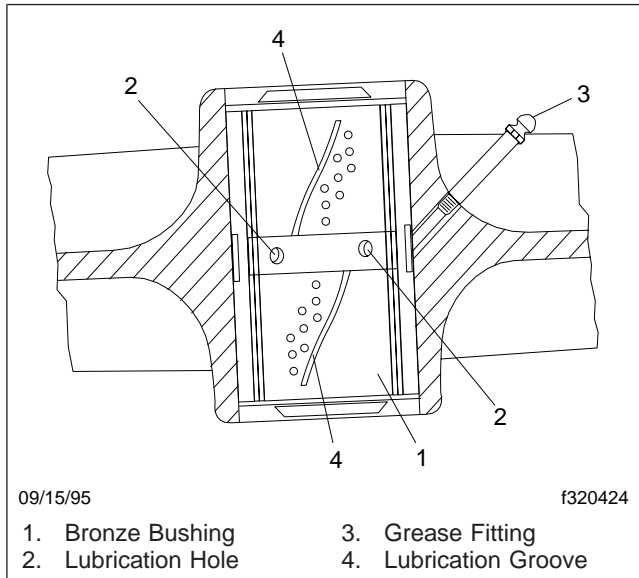

Fig. 22, Hendrickson RT2 and RTE2 Series Bushing Lubrication
3. Using a multipurpose chassis grease, lubricate the bronze, ball-indented bushings in the spring eyes at the grease fitting. See Fig. 22. Continue to lubricate until grease exits both ends of the bushing. If the pin will not accept lubricant, remove the pin and clean the lubrication channels where lubricant may have hardened. Remove the safety stands and lower the vehicle after lubrication is complete.